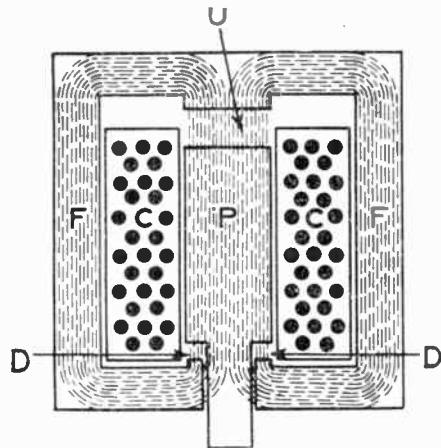
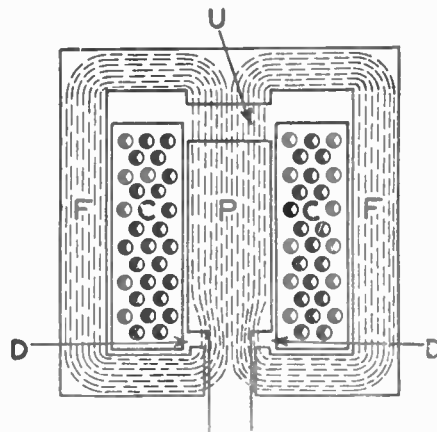

Fig. 3.—Effect of a strong current on the solenoid, the lines of force filling the air gaps, pulling the armature down.
Fig. 4.—A medium current, which does not pull the armature upwards.
Fig. 3 shows a circuit in which the lamp reproduced, very faintly, words spoken into the microphone. The sound emitted from the lamp was probably due to a condenser effect of the tin foil coating, although the lamp reproduced no sound when extinguished. Probably the space within the bulb became conductive,
In trying to make the lamp generate high frequency oscillations by taking advantage of the dip in the curve (B), the circuit shown in Fig. 4 was used. A 1250-turn honeycomb coil was shunted by a variable condenser and connected in the plate circuit. The plate was kept negative
Figures 3, 4 and 5 illustrate this arrangement with the addition of a coil which has been wound around the plunger (P); the black circles represent the cross sections of the coil wires (CC). Now suppose that a large current is passed through the coils (CC). According to electromagnetic principles the iron becomes magnetized and magnetic lines of force flow through the plunger (P) and the
framework (FF) as shown in Figure 3. It will be observed that the lines of force pass from framework to the plunger directly and also by way of the air gaps (DD) at the bottom. The reason for it is that since the plunger is narrower at the bottom it is more easily saturated than at the top, and hence can carry fewer lines of magnetic force. The excess above those which it can carry flows through the air gaps (DD) into the wider portion of the plunger. The lines of force also pass from plunger to framework via the air gap (U) at the top.
Suppose, now, that the current in the coils (CC) decreases. As a result the lines of magnetic force flowing through the coil are less, and this condition is illustrated in Figure 4, which has fewer lines than Figure 3. Since there are fewer lines of force passing from the framework (FF) to the plunger (P) at the bottom, most of these lines can pass through the narrow